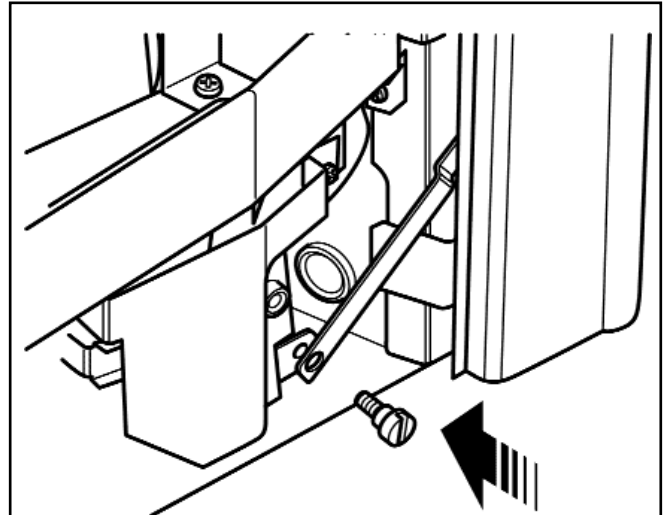

Figure 29. Shouldered screw.
2. Connect the control linkage to the control pivot plate using the shouldered screw and using a screwdriver (NOT finger tight only) (See figure 29).
5. Connect the control linkage to the control pivot plate using the shouldered screw and using a screwdriver (NOT finger tight only) (See figure 29).
5. Connect the control linkage to the control pivot plate using the shouldered screw previously removed and using a screwdriver (NOT finger tight only) (See figure 29).